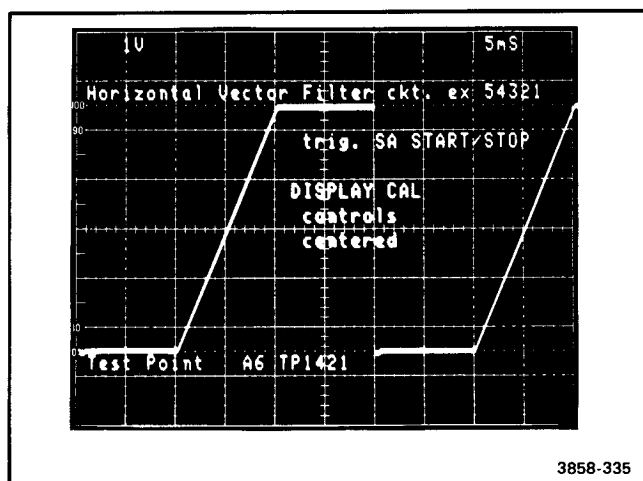

Figure 3-15. Waveform for Horizontal Vector filter test.
31) Horizontal Vector Filter (54321). If this test fails, place the Display Board on an extender and run circuit exercise 54321. Use an oscilloscope to troubleshoot the Horizontal Vector Filter. Waveform Figure 3-15 is a typical output of this test. The SA Start/Stop line provides a stable oscilloscope trigger while using this test for troubleshooting.